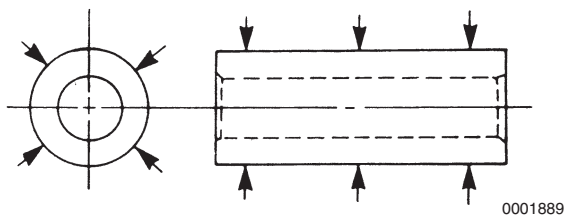

Figure 6-113
7. Measure the outside diameter of the wrist pin in three places and at 90° (**Figure 6-113**). See *Piston* on page 6-15 for specifications. Record the measurements.